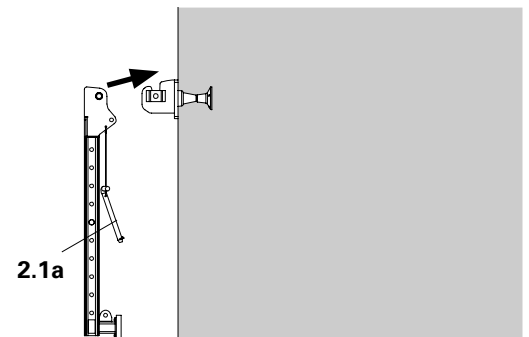

Fig. B1.06a
2. Attach Bracket Post VGK (2.1) to the Suspension Head VGK and secure with locking pins (2.1a) and cotter pins. (Fig. B1.06a + B1.06b)